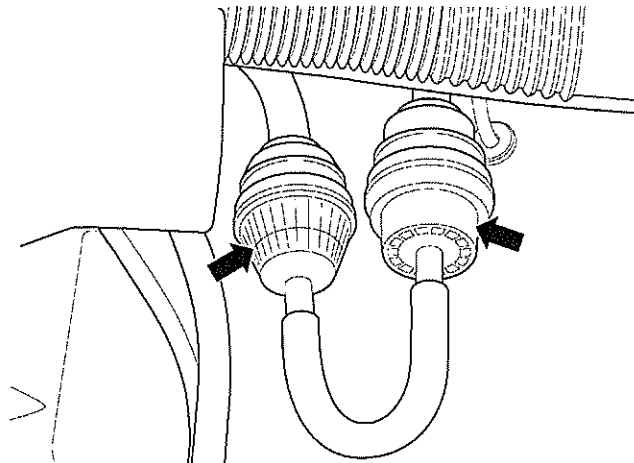

Fig 19 Pneumatic system filter/dryer
- 32.2 Renew air filter and dryer (see Fig 19).